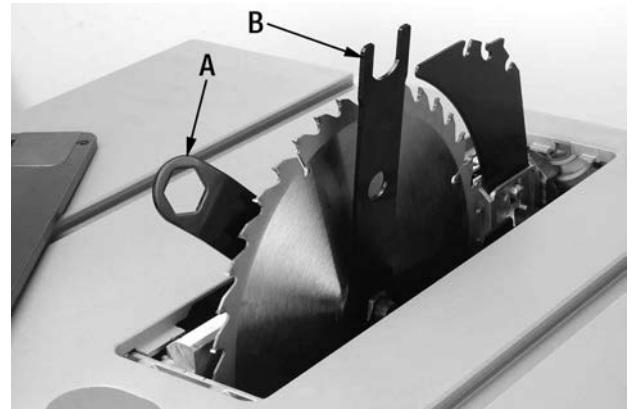
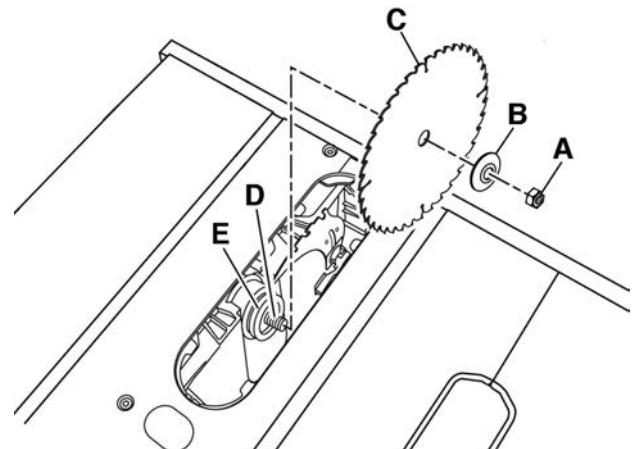

FIGURE 25
FIGURE 26
3. Place the open end of one of the adjustment wrenches (A) Fig.25 on the flat portion of the inside blade flange (E-Fig.26, behind the blade) to prevent the saw arbor and blade from rotating. Then place the closed end of the second adjustment wrench (B) Fig.25 on arbor nut (A) Fig.26 and turn the arbor nut counterclockwise, remove arbor nut and outside blade flange (B) Fig.26.
4. Place new blade (C) on arbor (D) making sure the blade teeth point downwards towards the front of the table saw.
5. Replace outside blade flange (B) and arbor nut (A) Fig.26 on arbor shaft and tighten with arbor wrenches.